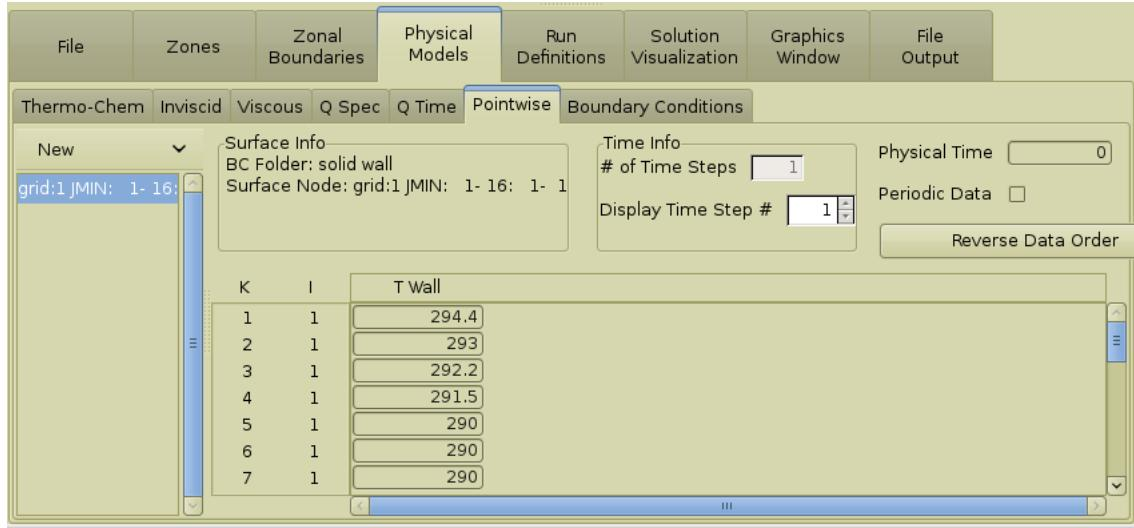

Figure 10.4: A sample pointwise data window for wall temperature.
A sample pointwise data set is shown in Fig. 10.4 on pg. 154. Here, the pointwise data set has been set up to specify wall temperature along a surface (for a fluid flow simulation). The surface that the pointwise data is associated with is listed next to the **Surface Node** label, and the boundary condition folder (or surface family) that the pointwise surface belongs to is listed next to the **BC Folder** label.
1. Select a surface from the tree view. For our sample pointwise data set (Fig. 10.4 on pg. 154), the surface was selected as shown in Fig. 10.5 on pg. 155. Note that a surface must be selected before you are allowed to create a data set.